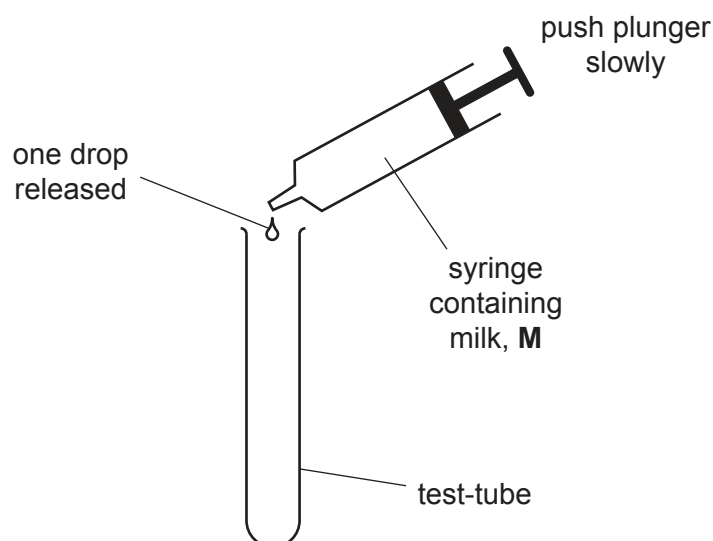

Fig. 1.1
- Hold the syringe containing **M** over an empty test-tube, as shown in Fig. 1.1. Push the plunger slowly to release **one** drop.